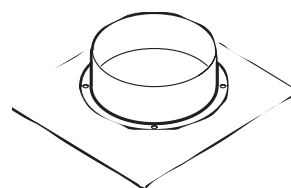

fig.02
**N.B. for further information, see the tables in this manual and the various accessories kits; see fig. 02 below regarding compatibility**